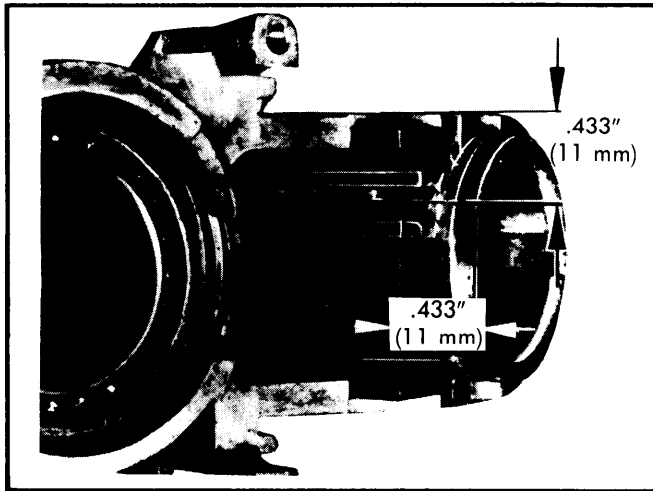

Fig. 3 Measurements for Drilling into Steering Lock Cylinder - Type 1 Only
2) Disconnect wiring harness from switch. If no hole is present in lock mechanism housing, one must be drilled. Refer to Fig. 3.
**Removal (Except Type 1)** - 1) It is necessary to drill into cylinder lock to gain access to cylinder release pin. Refer to Fig. 3 to determine where  $\frac{1}{8}$ " hole must be drilled.